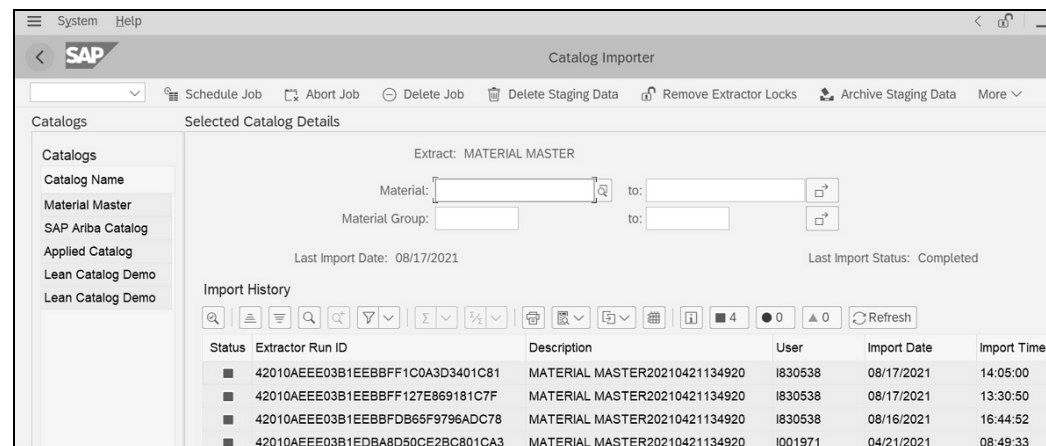

Figure 5.32 Catalog Importer
1. Enter Transaction MMPUR_CAT_EXT or the Schedule Import of Catalog Data app and click **Add a New Job** as in Figure 5.32. A new job screen appears.